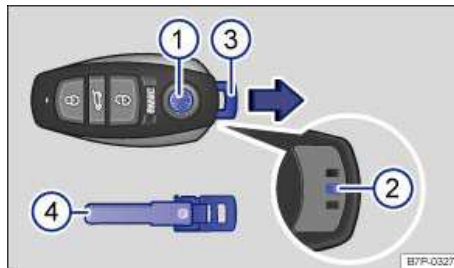

Fig. 333 Releasing and removing the emergency key from the remote control vehicle key with alarm button.
- Press and hold the button ⇒ fig. 333 (1) with one hand.
- Press the locking tab (2) on the bottom of the emergency key (4) with the other hand while pulling the emergency key out in the direction indicated by the arrow.